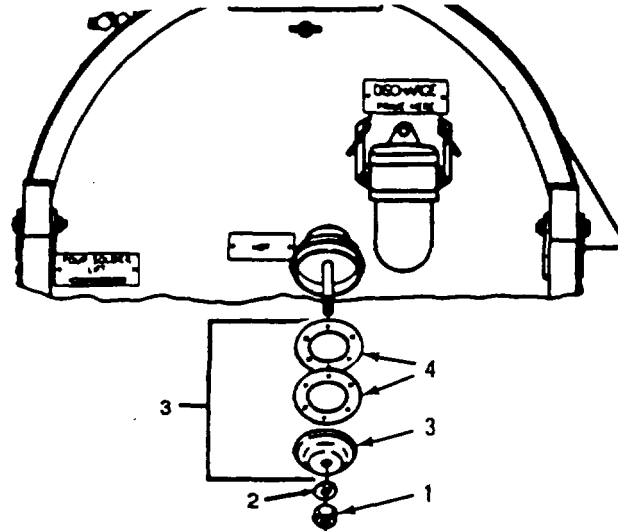

Figure 4-23. Cleaning Spark Arrester
- a. Removal: (Refer to Figure 4-23).
- (1) Remove nut (1) and washer (2).
- (2) Remove spark arrester end cap (3) and two baffles (4) from shaft.